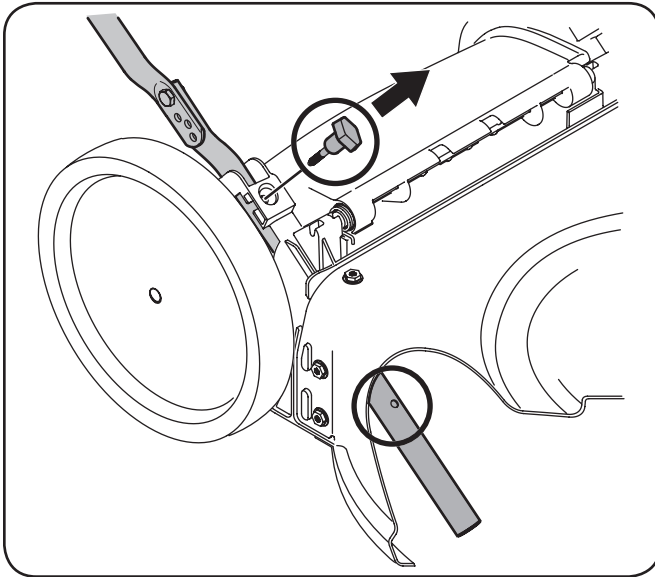
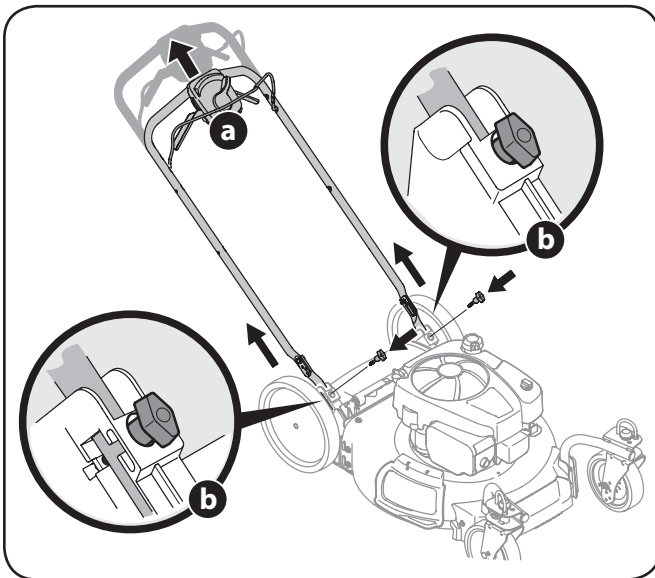

Figure 3-3
Figure 3-4
- Remove the T-bolts from the handle brackets as shown in Figure 3-3.
- Pull upward on the handle approximately 8 inches until holes in lower handle (shown in Figure 3-3 deck cutaway) line up with holes in handle bracket. See Figure 3-4.
- Insert the T-bolts removed earlier through the handle brackets and lower handle and tighten securely to secure the handle in place. See Figure 3-4.